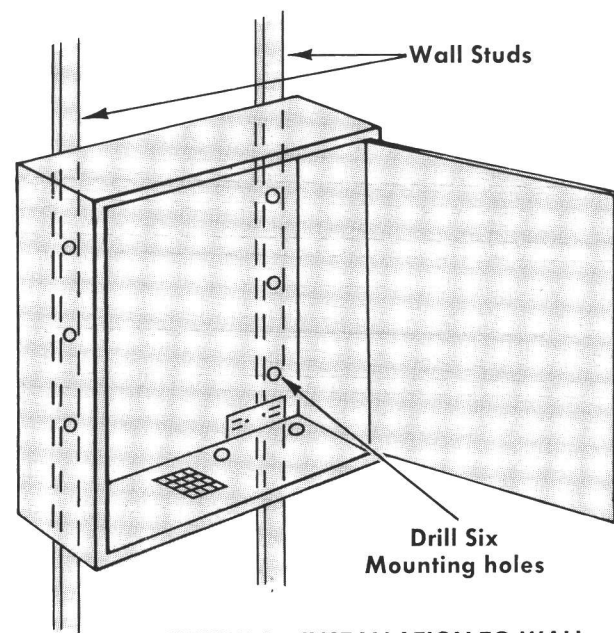

FIGURE 4—INSTALLATION TO WALL
1. Measure distance between the center of wall studs where station is to be mounted as shown in Figure 4. (Be sure wall can support full weight of station.)